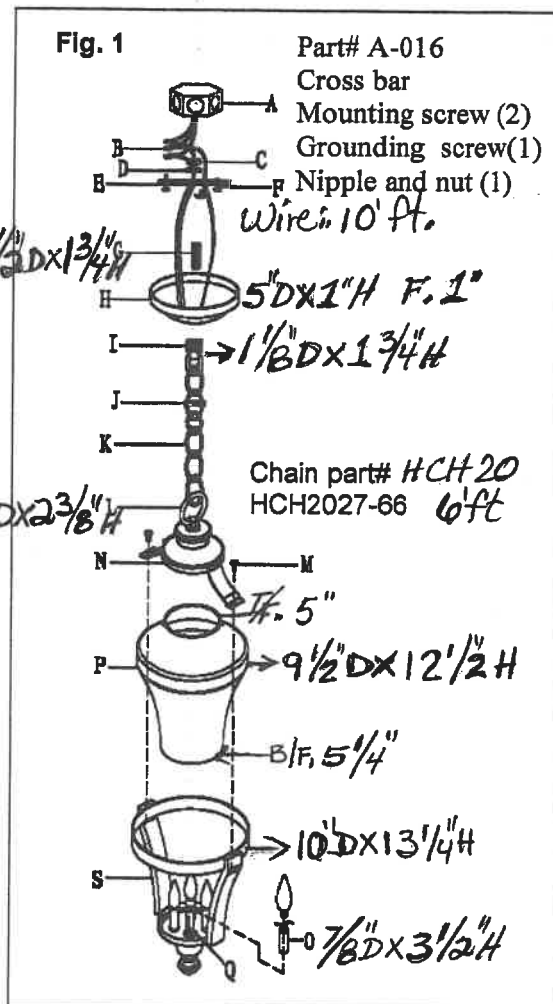

FIG. 2		FIG. 2		FIG. 2
## CONNECTION THE WIRES (Fig. 2)
7. Connect the electrical wires as shown in Fig.2. making sure that all wire connectors(B)are secured. If your outlet box has a ground wire (green or bare copper), connect the fixture's ground wire to it. Otherwise, connect the fixture's ground wire directly to the cross bar using the green screw provided.